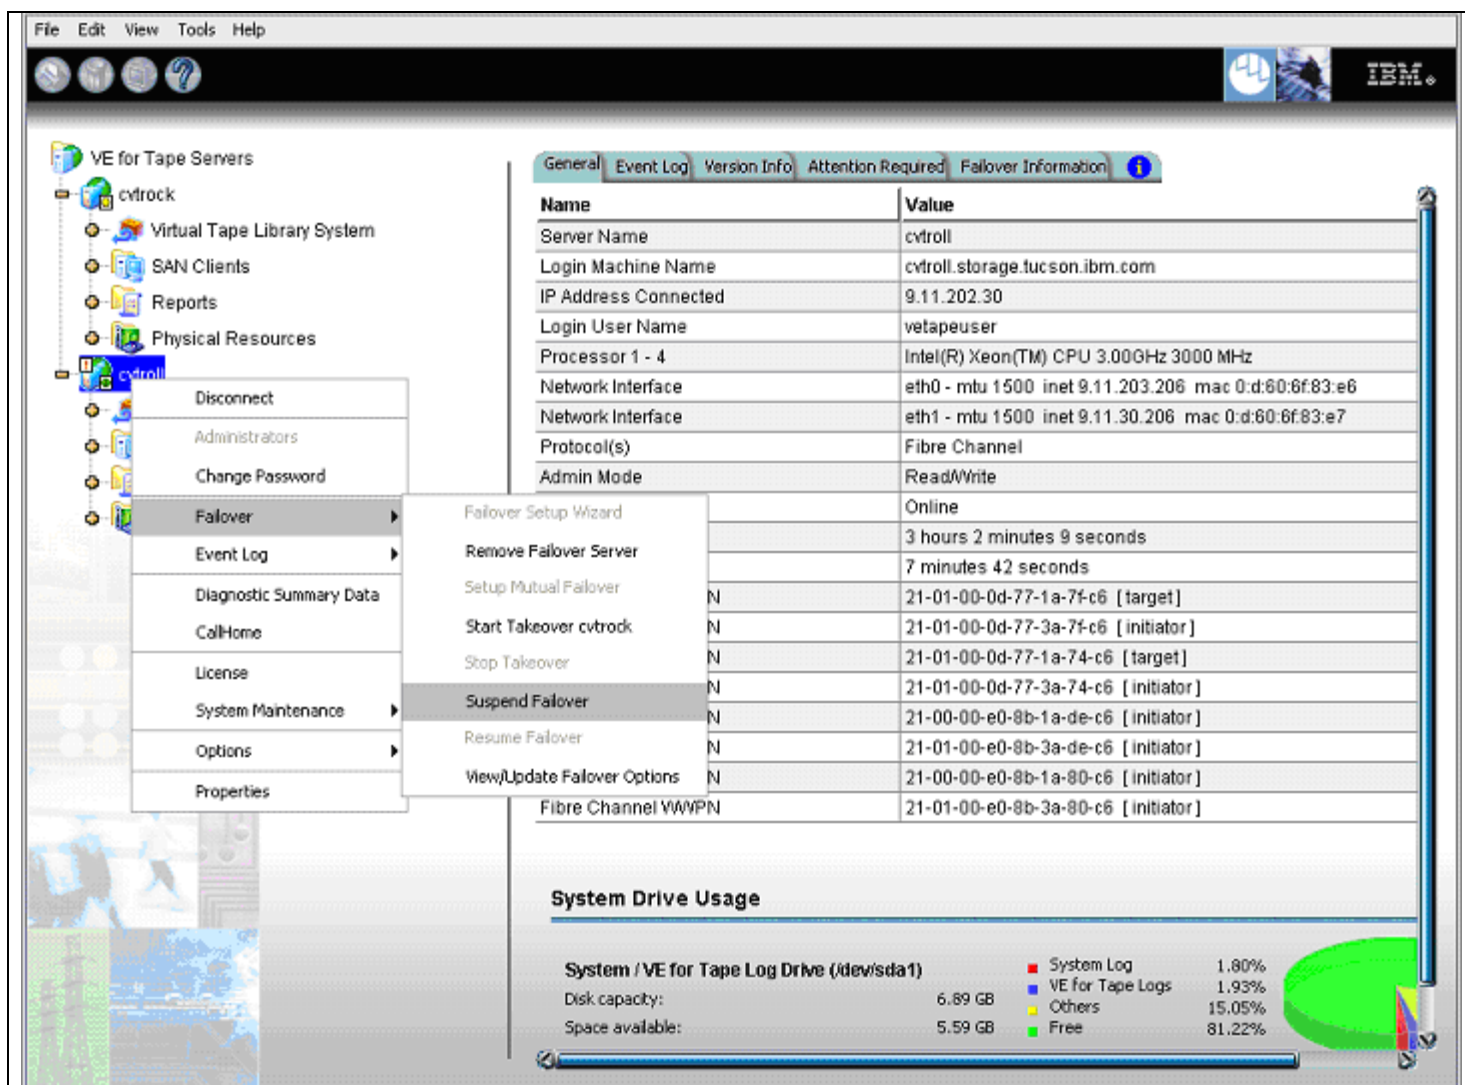

Figure-5
3. Click **Failover** → **Suspend Failover**. Refer to Figure-5.